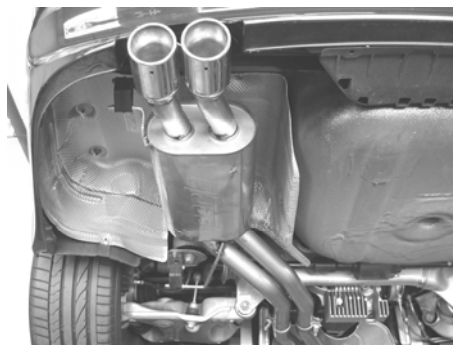

Figure 10
5. Place a clamp over each expanded end of the rear muffler assembly and place into position as shown in figure 10 installing the hangers into the rubber brackets. DO NOT tighten the clamps.